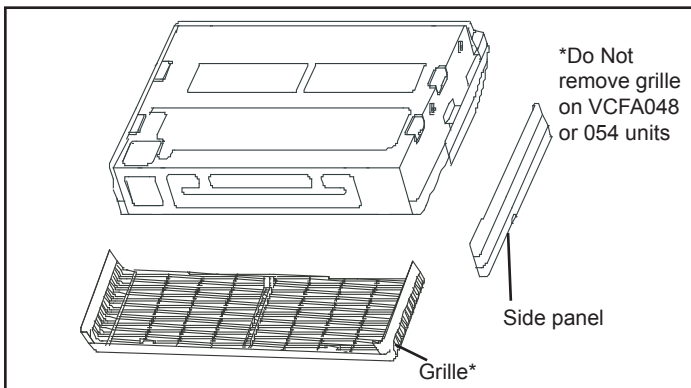

Figure 4. Remove Side Panel and Grille
- Remove the side panel and the grille. See figure 4. *NOTE - Do not remove the grille on VCFA048 or 054 models.*